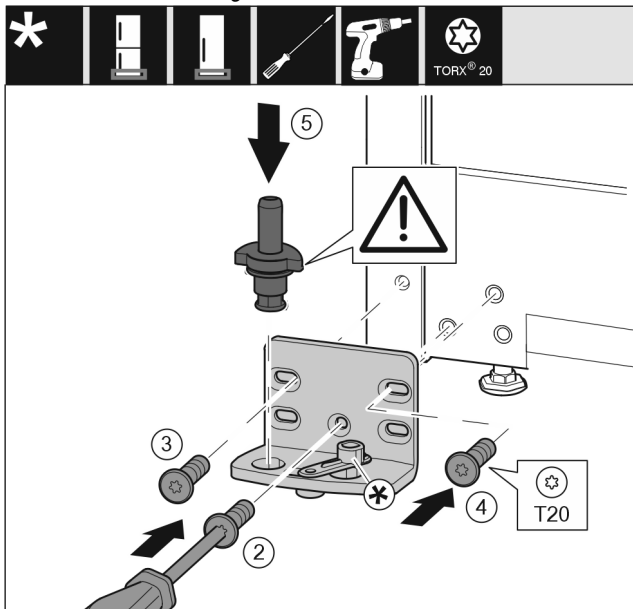

Fig. 15
- ▶ Place the bearing bracket on the other side and screw it on with a T20 screwdriver. Start with screw 2 at the bottom in the middle. Fig. 15 (2)
- ▶ Screw in screws 3 and 4 tightly. Fig. 15 (3,4)
- ▶ Insert the bearing pin completely. Make sure that the latching lug is pointing to the rear. Fig. 15 (5)